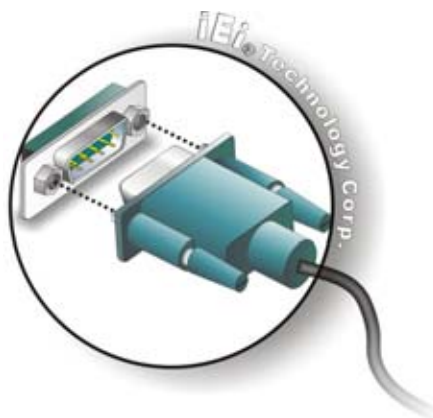

Figure 2-3: Serial Device Connector
Step 2: Insert the serial connector. Insert the DB-9 connector of a serial device into the DB-9 connector on the bottom panel. See **Figure 2-3**.